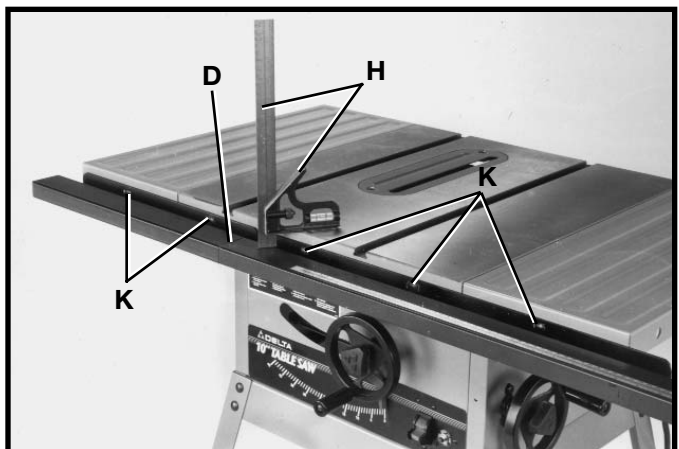

Fig. 25
4. Using a square (H) Fig. 25 set at $\frac{13}{16}$ ", place the square on the saw table and against the top of guide rail (D). Align the guide rail until it is parallel to the saw table by loosening and tightening mounting hardware at five positions (K) Fig. 25.